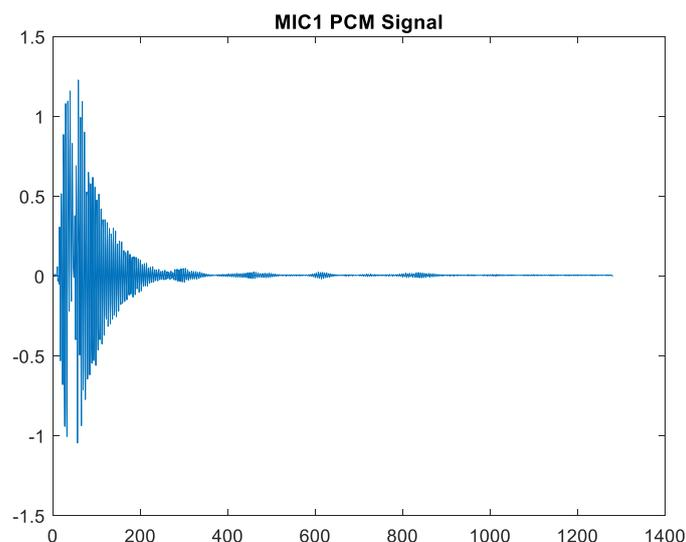

Figure 8: Example of MIC1 recording.
4. Open Matlab in the *matlab* folder and run command (result can be seen in Figure 8):